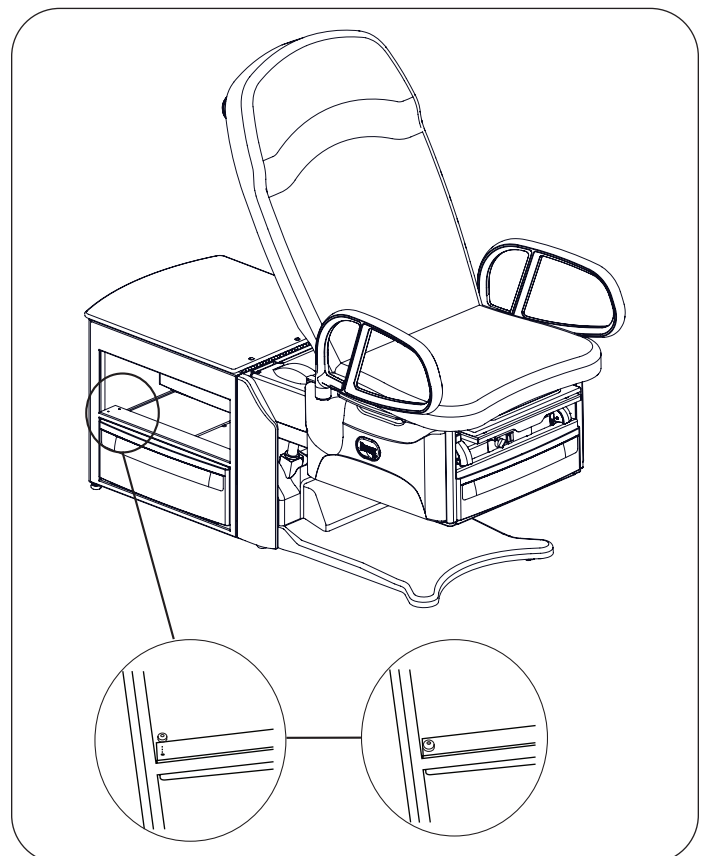

Figure 37. Drawer Stops
2. On the opposite side of the cabinet, screw in the drawer stop (Figure 37). Please note that only one stop is needed per drawer.